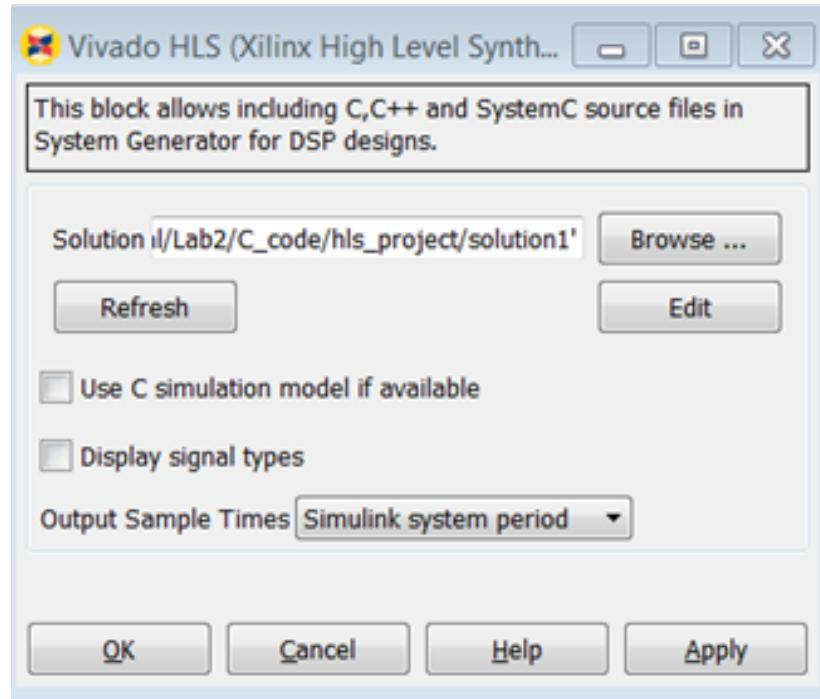

Figure 64: Importing Vivado HLS IP
7. Use the **Browse** button to select the solution created by Vivado HLS in Step 1, at `C:/SysGen_Tutorial/Lab2/C_code/hls_project/solution1`, as shown in Figure 64: Importing Vivado HLS IP.